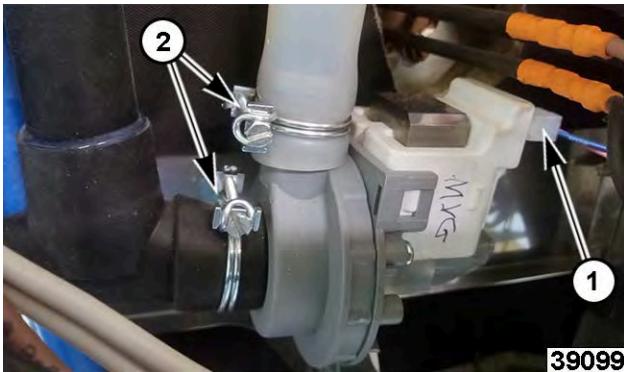

Fig. 56
- Note and disconnect wiring connectors (1, Fig. 56).
- Note and disconnect hoses (2, Fig. 56).